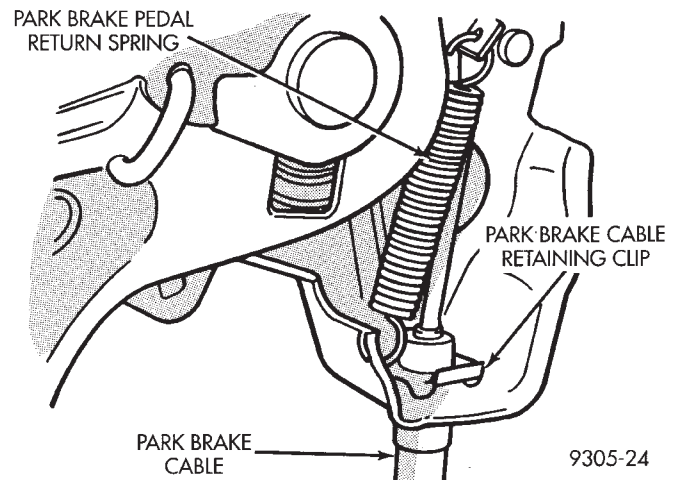

Fig. 21 Park Brake Cable Installed In Mechanism
(3) Install park brake cable to park brake pedal mechanism retaining clip (Fig. 21). Be sure retaining clip is fully installed on park brake cable.